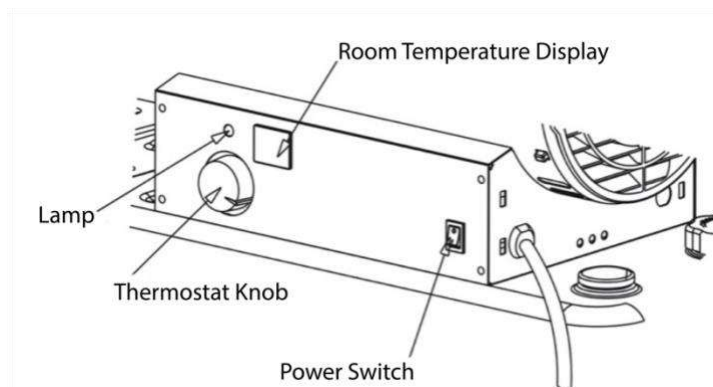

Figure 5. Control Panel
4. Turn the thermostat control knob to the desired temperature (range: 5°C to 45°C). Set the Power Switch to 'ON' (see Figure 5). The power indicator lamp and room temperature display will light, and the heater will start.